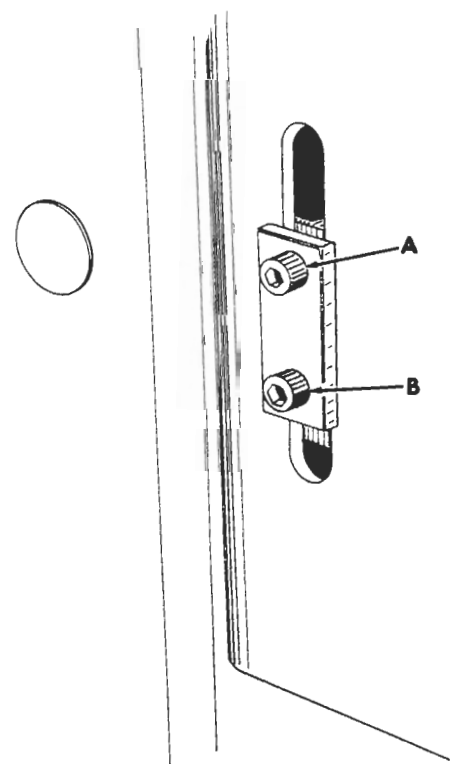
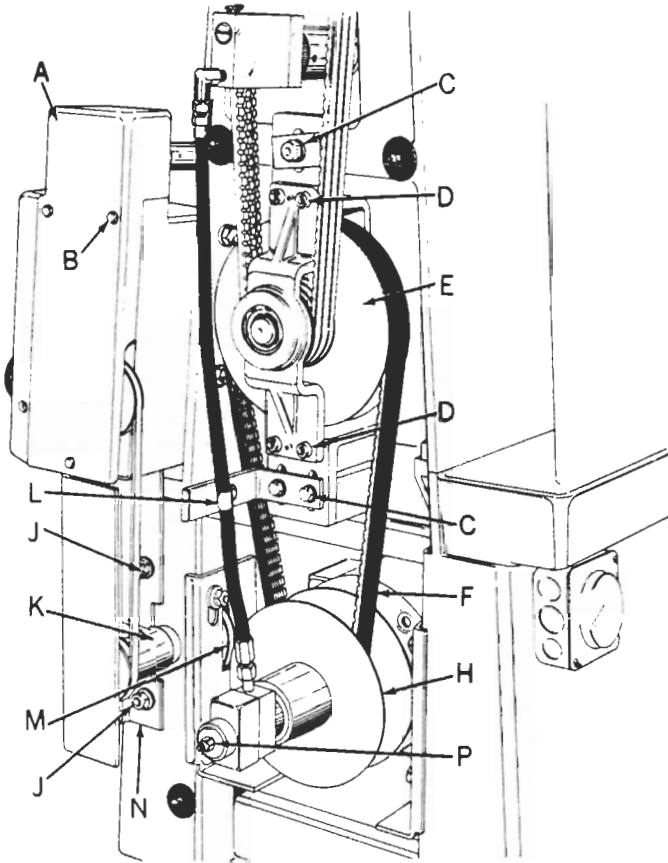
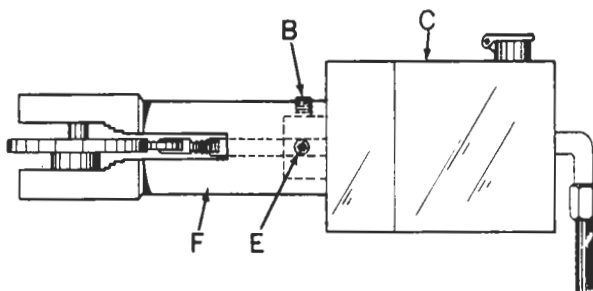
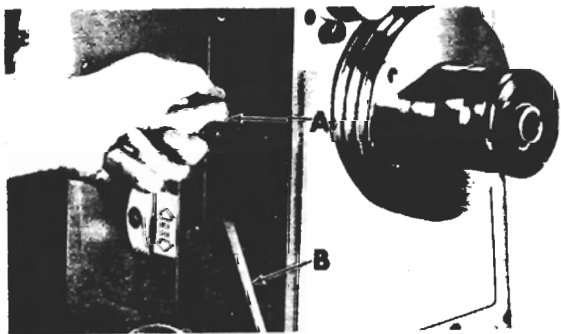

Figure 11
Figure 12
Figure 15
Figure 16
2. Loosen screws (A and B, fig. 11).
3. Move power feed pulley assembly (K, fig. 12) until belt is properly tensioned.
4. Tighten screws (A and B, fig. 11).
2. Loosen two lock nuts (J, fig. 12).
3. Slide bracket assembly (N) until belt is properly tensioned.
4. Tighten lock nuts (J).
2. Remove clamp holding hydraulic line (L, fig. 12).
3. Loosen the three screws (C) holding countershaft assembly to column.
4. With a small lever (screw driver) force countershaft assembly downward, and retighten three screws (C).
5. Remount clamp that holds hydraulic line (L).
1. With guards removed and motor on, turn variable control to lowest speed. Variable speed belt (F, fig. 12) should be flush with outside of countershaft pulley (E), with a tachometer on spindle, speed should register approximately 200 rpm.
2. Turn variable control to highest speed -- variable speed belt should be flush with outside of motor pulley (H) and tachometer should register approximately 2000 rpm.
5. Remove clamp holding hydraulic line (L, fig. 12).
6. Loosen the three screws (C) holding countershaft assembly to column.
8. Remove belt (F) from motor pulley (H).
9. Loosen four socket cap screws (D) in front countershaft bracket, and pull complete countershaft pulley assembly out of rear countershaft bracket.
10. Remove spindle belts and variable belt (F) from countershaft pulley (E). CAUTION: Variable pulley is spring-loaded and will snap closed when belt is removed.
11. Loosen two set screws (B and E, fig. 15) in variable cam housing (F) and slide cylinder (C) out of housing.
14. Line up set screw mark on variable control cylinder with set screw hole (E) in cam housing -- tighten set screws.
2. Remove three screws (B, fig. 12) and power feed cover (A).
3. Loosen two screws (A and B, fig. 11).
4. Move power feed pulley assembly (K, fig. 12) up and remove old belt.
4. Loosen two screws (J, fig. 12) and bracket (N).
5. Remove power feed belt from power feed pulley (M).
6. Remove clamp holding hydraulic line (L).
7. Loosen four screws (G) holding motor base and remove variable belt from motor pulley.
9. Loosen two screws (B & E, fig. 15) in variable cam housing (F) and slide control cylinder (C) out of housing.
11. Line up set screw mark on variable cylinder with set screw hole (E) in cam housing --- tighten set screws.
13. Place variable belt (F, fig. 12) on variable motor pulley (H).
15. After variable belts have been properly adjusted and tensioned --- place power feed belt on power feed pulley assembly (K).